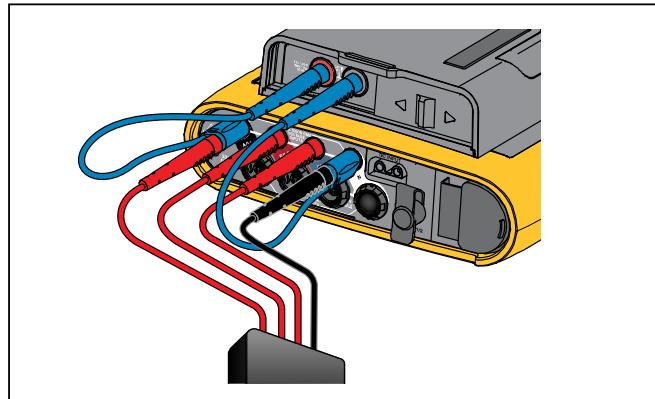
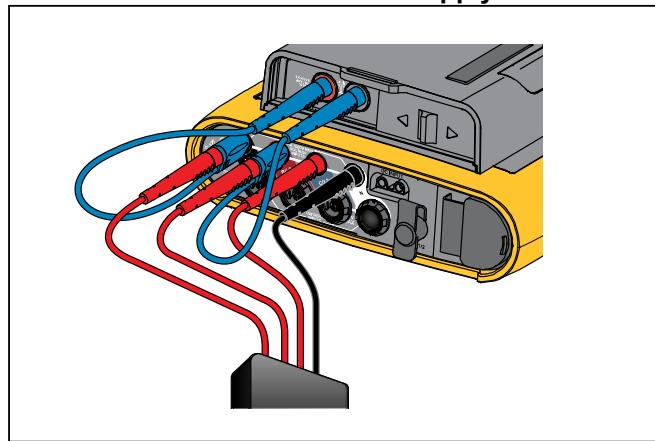

Figure 8. Measurement with Neutral Voltage and Instrument Power Supply
Figure 9. Measurement without Neutral Voltage and Instrument Power Supply
5. Use the short fan out of the Voltage Test Lead, 3-phase + N. Plug the connector A/L1 into the socket A/L1 of the voltage measurement inputs of the Monitor. Repeat this with B/L2, C/L3 and N. See Figure 8 and Figure 9.